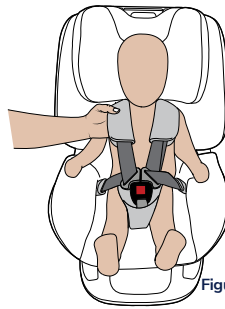

Figure 19
Step 1. Place child in the seat, fit harness straps over child's shoulders and position buckle between child's legs (Figure 19).